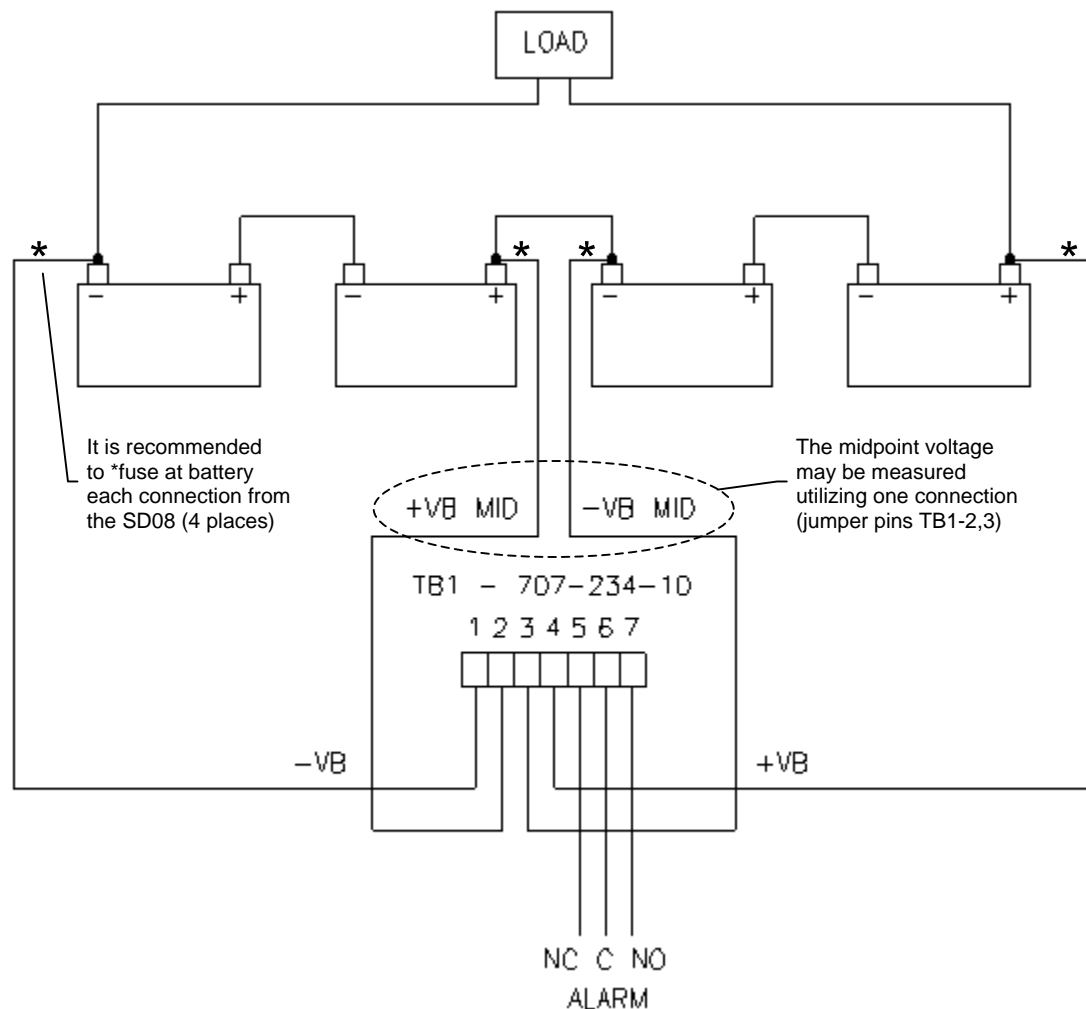

Figure 5—Showing SD08 terminal to battery connections
1. Confirm that the battery sense leads and alarm cables are connected to the terminal of the correct polarity at the SD08 module. See TB (terminal block) in Figure 5.